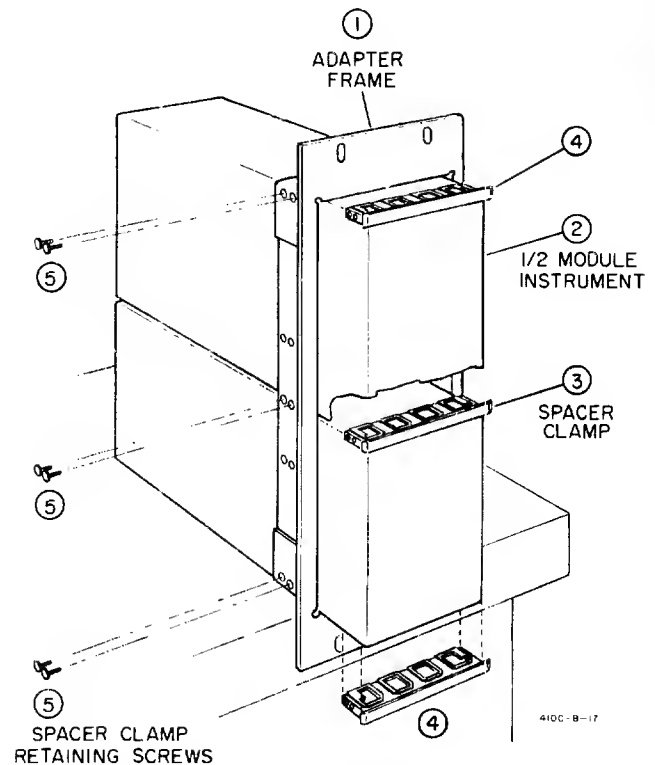

Figure 2-4. Two Half Modules in Rack Adapter
- Place the adapter frame on edge of bench as shown in step 1, Figure 2-4.
- Stack the submodular units in the frame as shown in step 2, Figure 2-4. Place the spacer clamps between instruments as shown in step 3, Figure 2-4.
- Place spacer clamps on the two end instruments (see step 4, Figure 2-4) and push the combination into the frame.